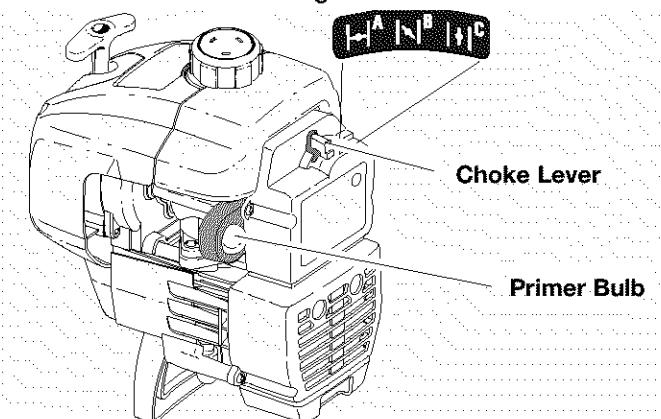

Fig. 8
2. Fully press and release primer bulb slowly 5 to 7 times. **Fuel should be visible in the bulb** (Fig. 8). If fuel hasn't entered the bulb, press three (3) more times, or until it does.
3. Move choke lever (Fig. 8) to **CHOKE** (I A).
NOTE: If the engine floods while trying to start, place the choke lever in the **RUN (C)** I+I position (Fig. 8). Squeeze the throttle control. Pull the starter rope briskly. The engine should start within three (3) to eight (8) pulls.